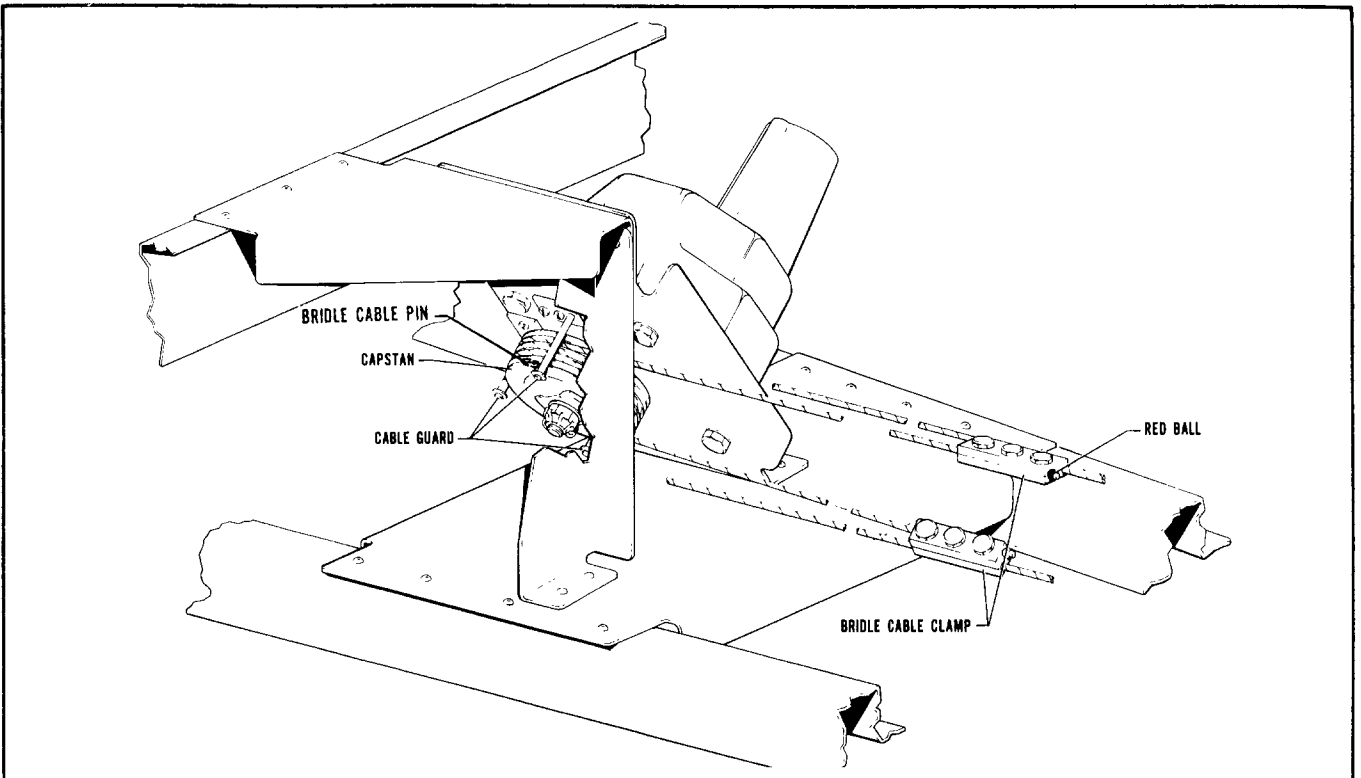

Figure 3-16. Pitch Servo Installation, PA-23-250
#### 3-21. INSTALLATION OF PITCH SERVO. (PA-23-250 Six Place) E Model. (Refer to Figure 3-16.)
- e. REFER TO FIGURE 3-9 AND CHECK THAT THE CONTROL CABLE TENSION (Z) IS ADJUSTED TO  $35 \pm 4$  POUNDS PRIOR TO ATTACHING THE BRIDLE CABLE CLAMPS. Ascertain area on cable where clamp attaches is clean, dry and free of all lubricants and anti-corrosive additives. Attach the bridle cable to the stabilator control cables. The bridle cable is drawn to the stabilator control cables and attached with clamps at the previously painted locations. The end of the bridle cable with the red ball is attached to the left control cable. (Refer to Figure 3-16.) (Should the stabilator cables not be painted, position the control wheel full forward and with the servo disengaged, align the bridle cable pin installed in the capstan as shown in Figure 3-16. Adjust the bridle cable clamps so that the bridle cable tension (Y) as shown in Figure 3-9 is  $15 \pm 2$  pounds. Check the control cable tension forward of the bridle cable clamps and adjust, if necessary to obtain  $35 \pm 4$  pounds. If the control cables require adjustment, it will be necessary to readjust the bridle cable tension to  $15 \pm 2$  pounds. Torque the bridle cable clamp bolts to  $55 \pm 5$  inch-lbs.